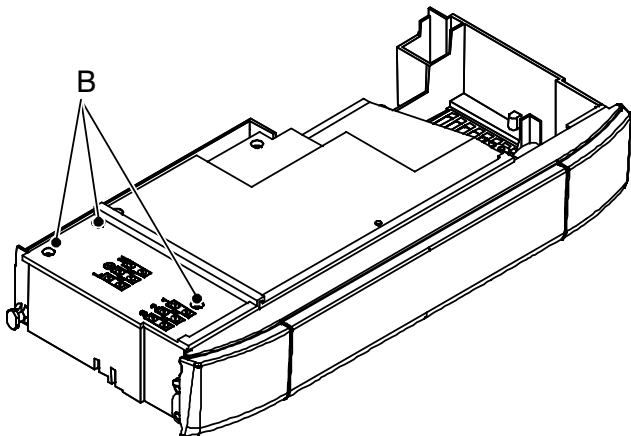

Fig. 7.7
- Loosen the screws B and remove the service panel (Fig. 7.7).